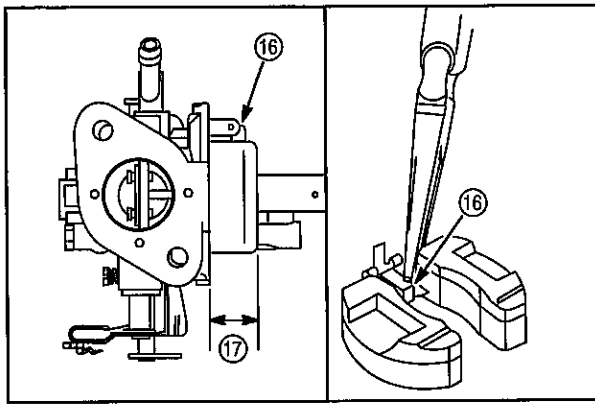

Fig. 37
17. Check float adjustment, **Fig. 37**.
- b. Float should be parallel (17) to bowl mounting surface.
- c. Bend tang (16) if required.